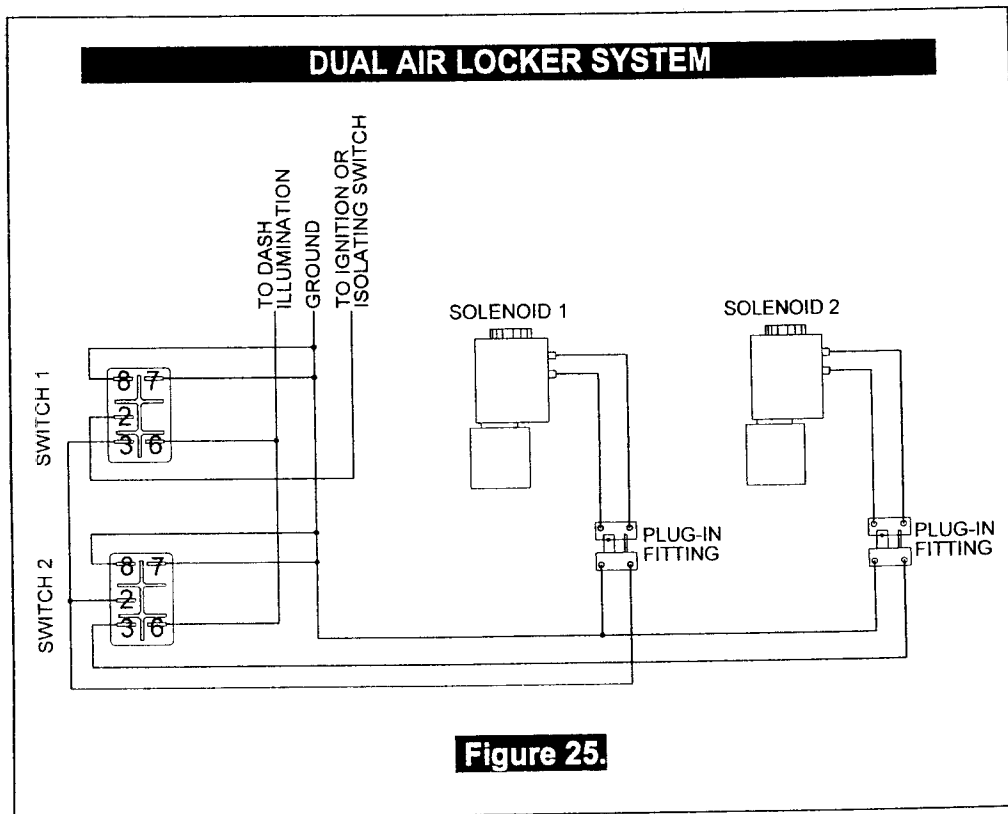

Figure 25.
- If two *Air Lockers* are to be installed in the system, ARB recommends that the switches and solenoids be wired according to Figure 25. For safety reasons, this configuration allows SOLENOID 2 to be actuated only if SOLENOID 1 is already on.